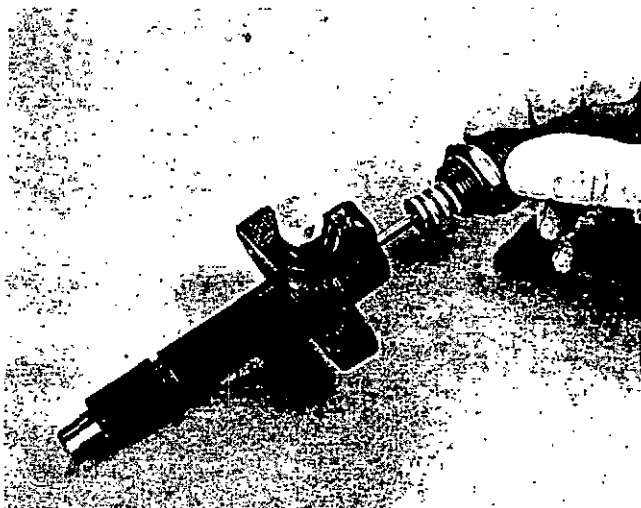

Figure 109
9. Inspect the spindle and spring for damage or wear. If any pitting or corrosion is found on the spring, it must be discarded. Figure 109.